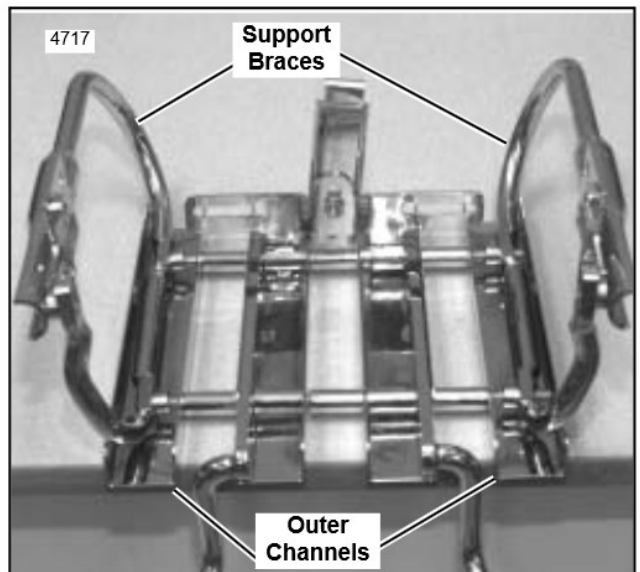

Figure 6. Position Outer Channels and Support Braces
- See Figure 6. Start the outer channels on the threaded rods so that the rod ends enter the outer channels about 1/4 inch. With the mounting flange of each support brace at the front (backrest side) and facing inboard, place support braces on rod ends inside outer channels.